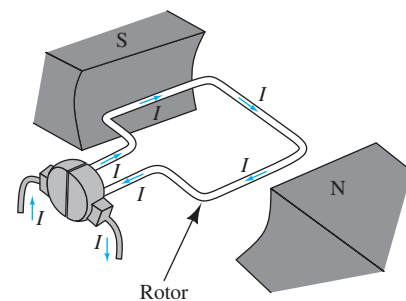

FIGURE 13.4 A picture of the rotor with slots.
- **Rotor:** A rotor is the rotating component of the motor. It is located inside the stator and is basically a laminated iron cylinder mounted on a shaft. The slots are cut lengthwise on the surface of the rotor to accommodate the armature conductors. Figure 13.4 represents one winding loop of the rotor.